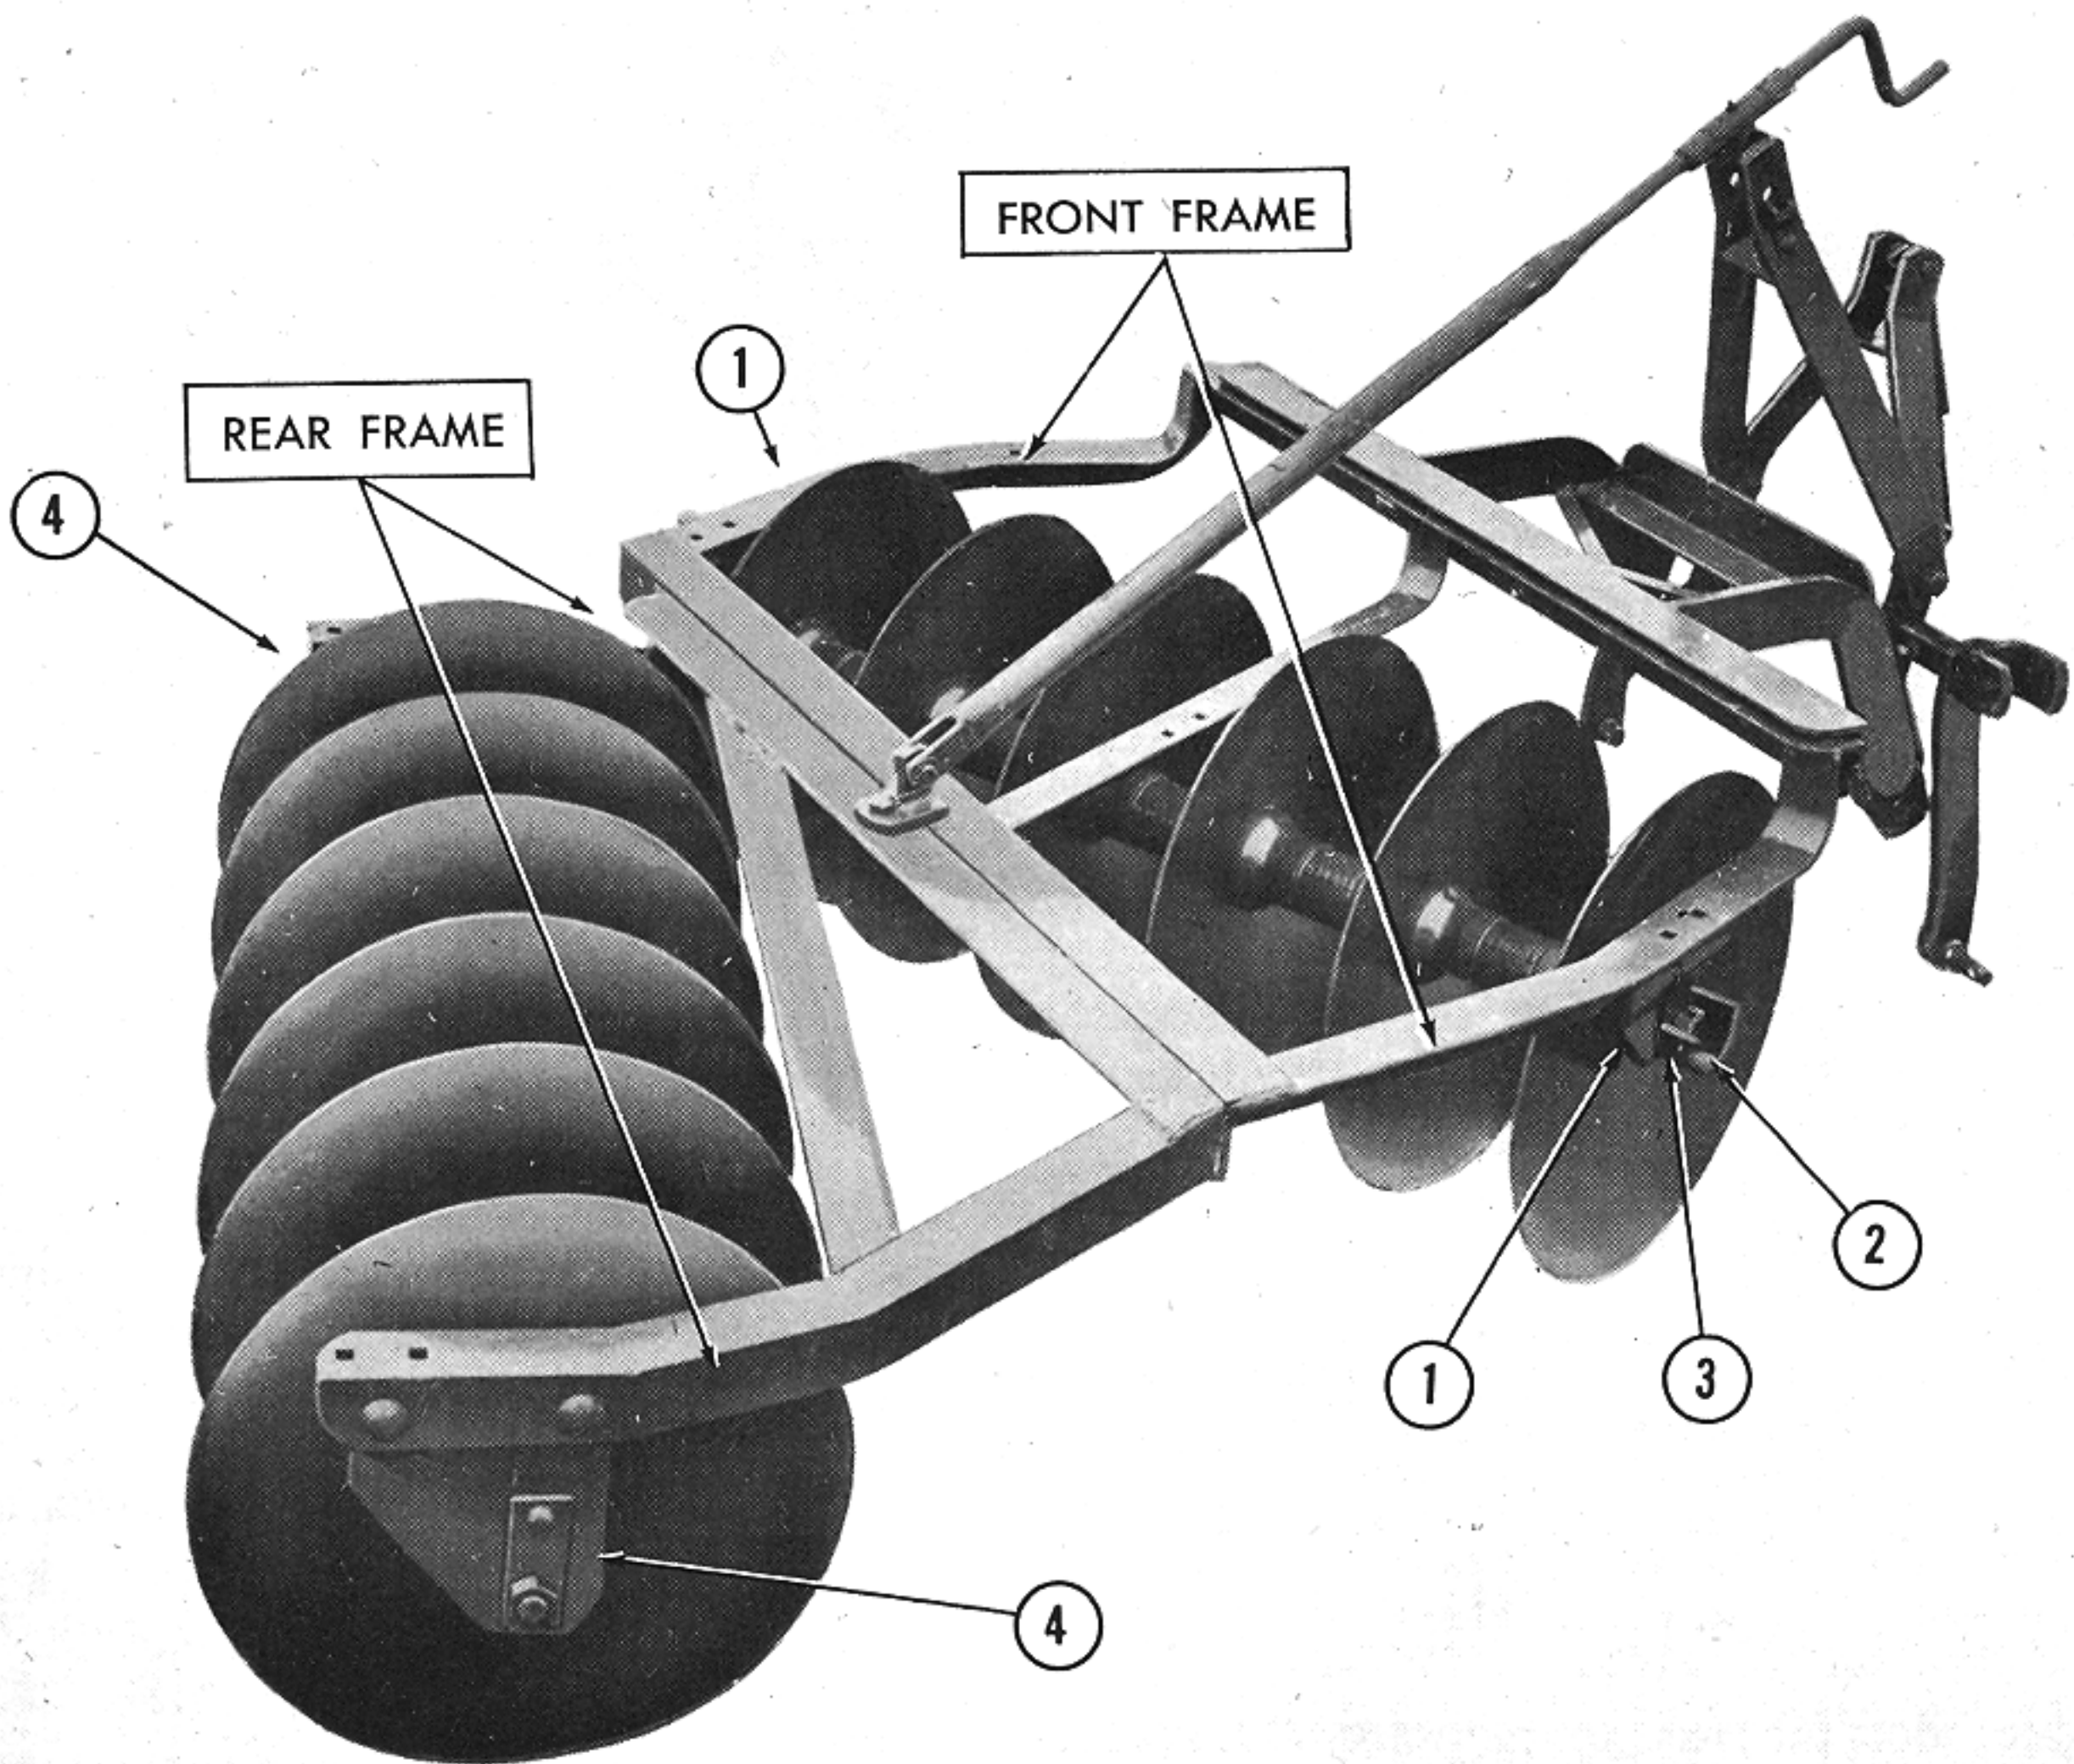

Figure 6
(See Figure 6)
- a. Position the front frame to fit on the risers (1) of the front disc gang (disc gangs are not interchangeable), as shown in Figure 6. Notice that the frame attaches to the risers (1) located outside of the discs at both ends of the disc gang. Be sure that the lubrication fitting guard (2) is in front of the lubrication fitting (3) and that the discs are dished to the right as shown in Figure 6 when viewed from the rear.
- a. Position the rear frame to fit on the risers (4) of the rear disc gang as shown in Figure 6. Be sure that the lubrication fitting guard is in front of the lubrication fitting (these parts are not visible in Figure 6) and that the discs are dished to the left when viewed from the rear.
- b. Bolt the risers to the frame with the four bolts provided in the frame. The straight riser is attached to the *right* side of the frame; the offset riser is mounted on the left hand side of the frame. See Figure 6.
2. *Oil bearing model.* This model has only two fittings for lubricating the disc gang bearings. One is located at the center of the right hand disc in the front gang (see (3), Figure 6); the other is in the center of the left hand disc in the rear gang. Both of these fittings should be lubricated twice a week with a 140 or 160 gear oil. A large capacity pressure gun is recommended for this because the axles hold from 2½ to 3½ quarts of oil. The oil need never be changed but the reserves should be kept full and oil should be forced past the seals for flushing purposes, when lubricating the bearings.